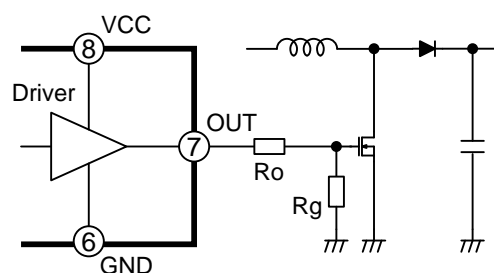

Fig.7-2 Frequency setting resistance
*1) For connection in Fig.7-2, Ro range: 0 to 100 Ω